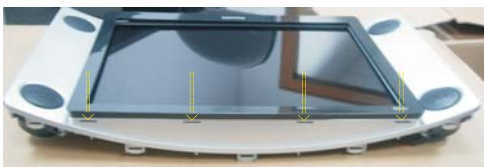
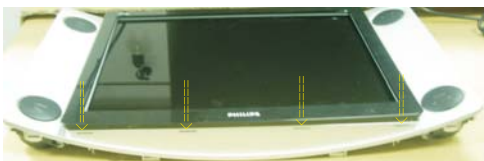

Fig. 19
Fig. 20
- 1. Open 4 clicks on top and bottom side as Fig.19 and Fig.20 .